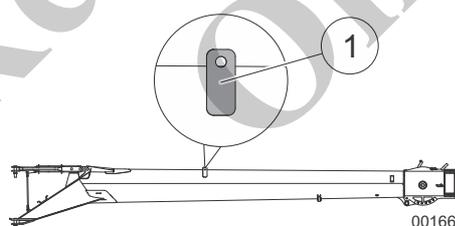

Fig. 183 Lifting points on the fly boom
12	Attach the fly boom to an auxiliary crane using suitable hoisting gear attached to lifting points (1) in Fig. 183.